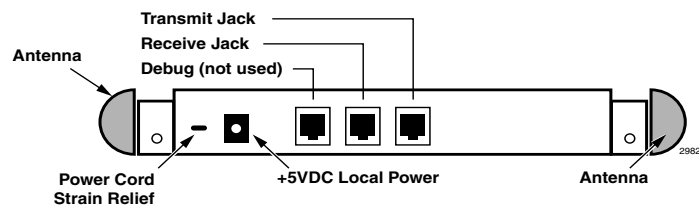

Figure 17 Location of Transmit and Receive Jacks
3. Connect the *transmit* cable (pair 21 or 25) to the receive side (see Figure 17).
4. Connect the *receive* cable (pair 20 or 24) to the transmit jack (see Figure 17).